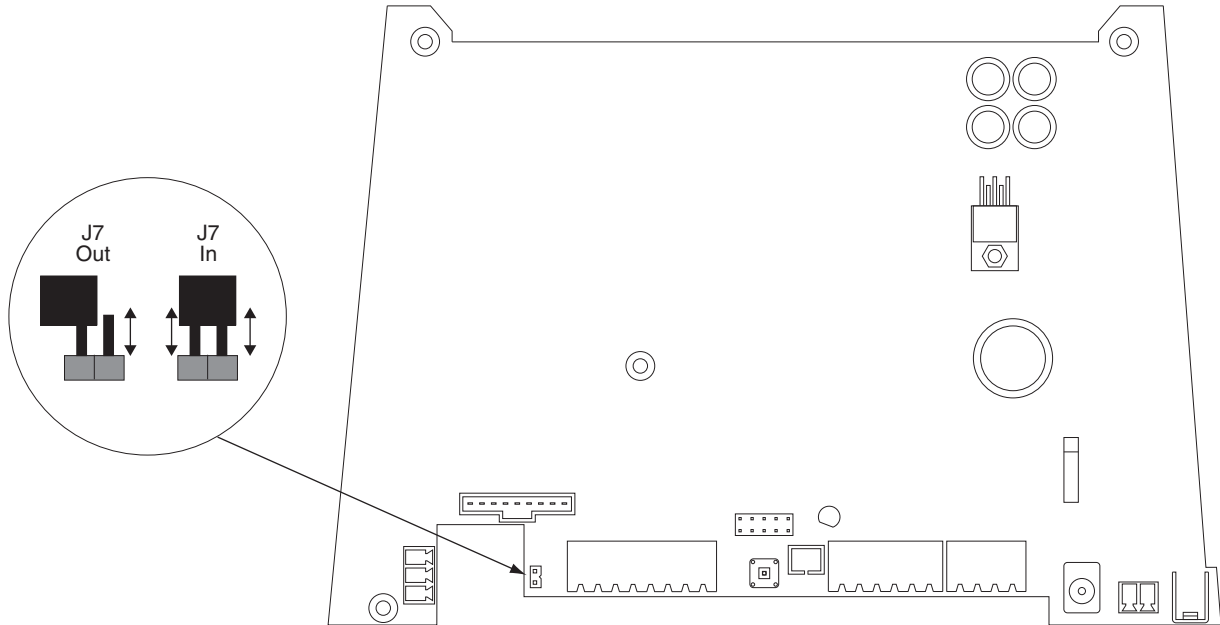

Figure 9
- ⚠ **CAUTION:** If the reader is equipped with an optional battery backup, remove the J7 jumper before proceeding. Failure to do so could lead to risk of shock and/or main board damage, if the ground strap were to touch the main board. See figure 9.